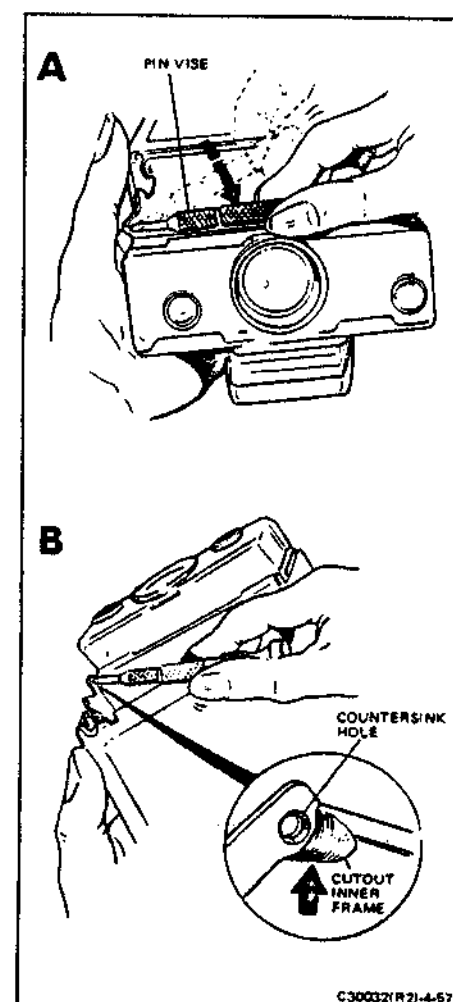

FIGURE 4-58 RIVETING THE SHUTTER HINGE BRACKET
- With a #1 center drill held in a hand pin vise, cut away a clearance area on the inner frame to provide enough room for the rivet installation (see Figure 4-58 "A"). Use extra care when start-
ing to cut into the plastic since excess force could break the bond between the inner frame and the bottom plate assembly. Start cutting with the tool held at an angle as shown in Figure 4-58 "A". When the cutout is well started, lower the angle of the drill to complete cutting the inner frame. When done it should look like the inset in Figure 4-58 "B".
- f. Also using the #1 center drill, countersink the hole in the bottom plate assembly as shown in Figure 4-58"B".
33. Refer to Figure 4-58. Install the three machine screws and the self-tapping screw to secure the gear-train assembly (see "Repairs/Adjustments").